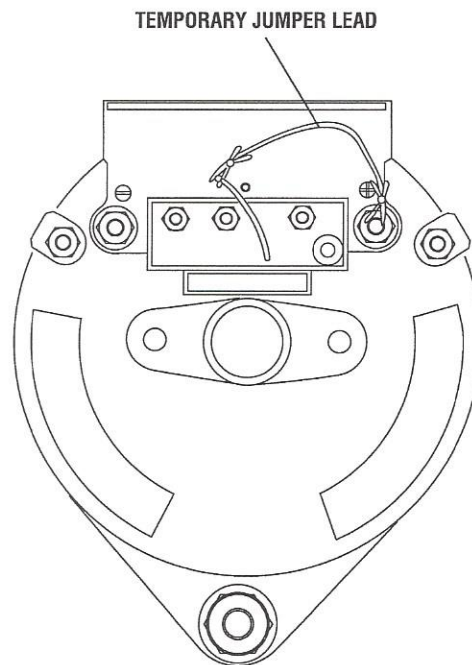

Figure 7.2. Regulator Inspection (CA-09-439)
1. With the engine off, connect a short jumper to the alternator POSITIVE output terminal and to the diode trio terminal for 2-3 seconds. This will restore the residual magnetism to the rotor. See figure 7.2.